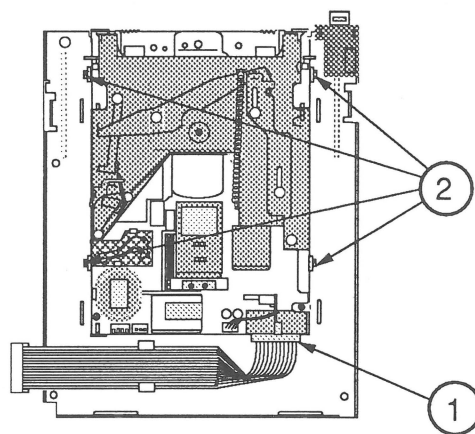

FIGURE 6
7. Disconnect the disk drive cable (Figure 6, #1) from the disk drive.
8. Remove the four Phillips screws (Figure 6, #2) holding the disk drive mechanism to the lower drive shield, and remove the disk drive.